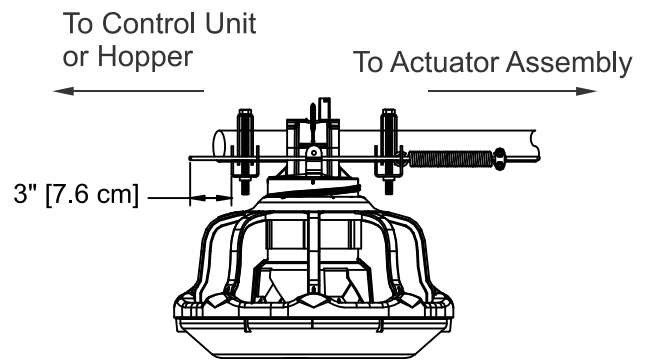

Figure 60. Trim excess actuator wire at control/hopper
5. With the actuator in the open position and the brood gate open tighten the 10-24 screw for each pan. With the brood in the open position. Go to the control unit or hopper end to trim the extra actuator wire. Leave **3 inches [7.6 cm]** of excess wire past the spring bracket, **see figure 60.**